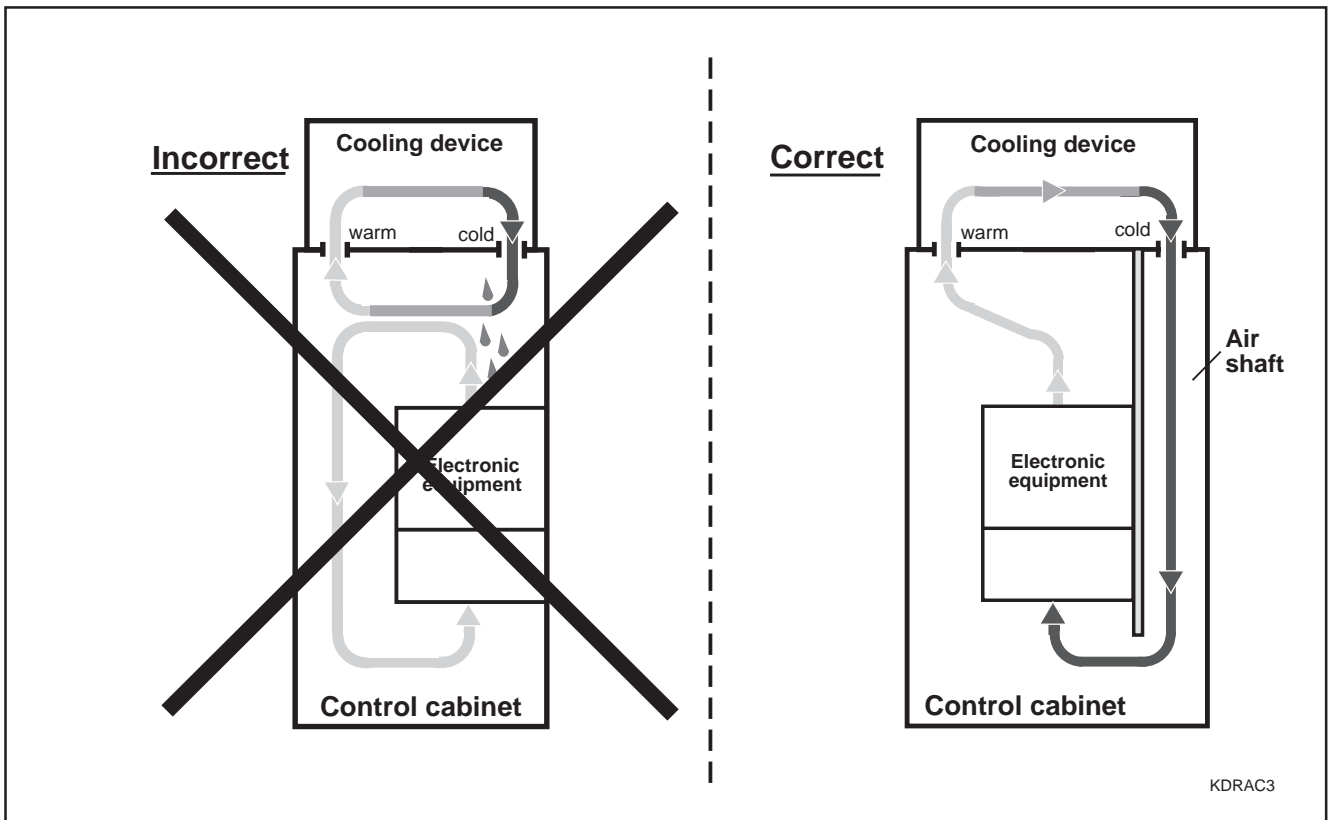

Figure 2.12: Placing the cooling device on the top of the control cabinet
- Always arrange cooling devices so that any condensation water formed does not drip onto the installed drive controllers. Cooling devices on the top of a control cabinet necessitate a special control cabinet design (see Fig. 2.12)!